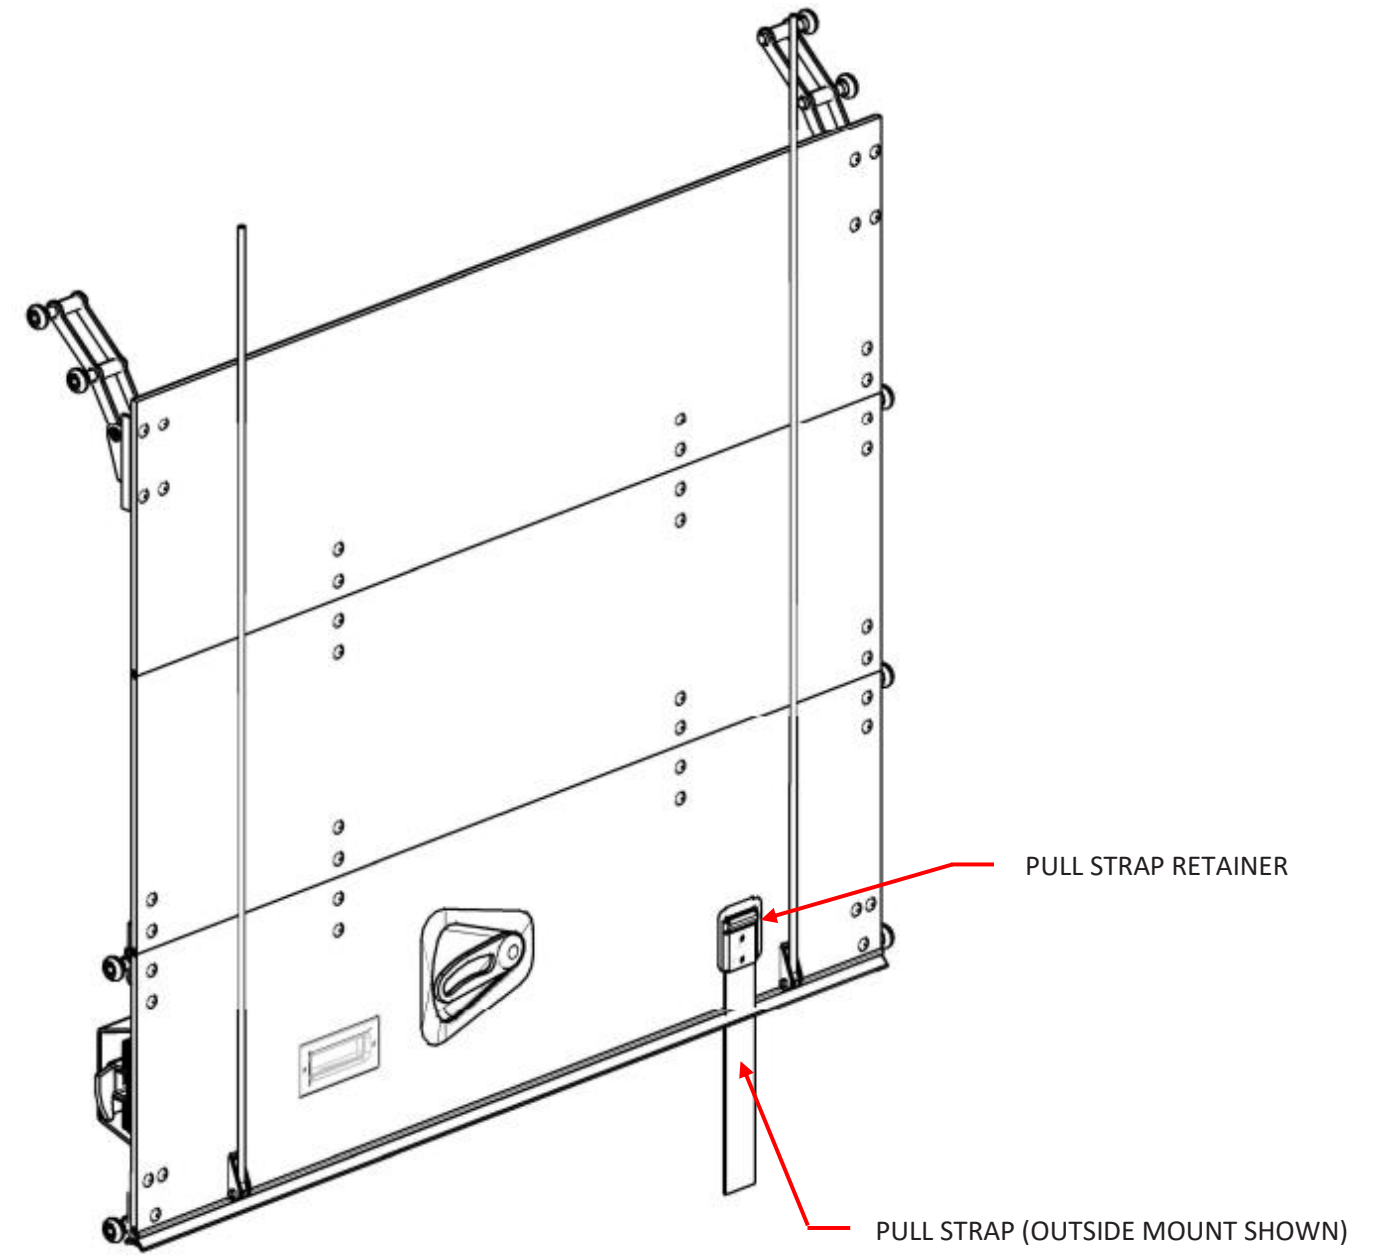

FIGURE 3
9. Inspect Roll-up Door Pull Strap for fraying or wear damage and replace if needed. (See Figure 3).